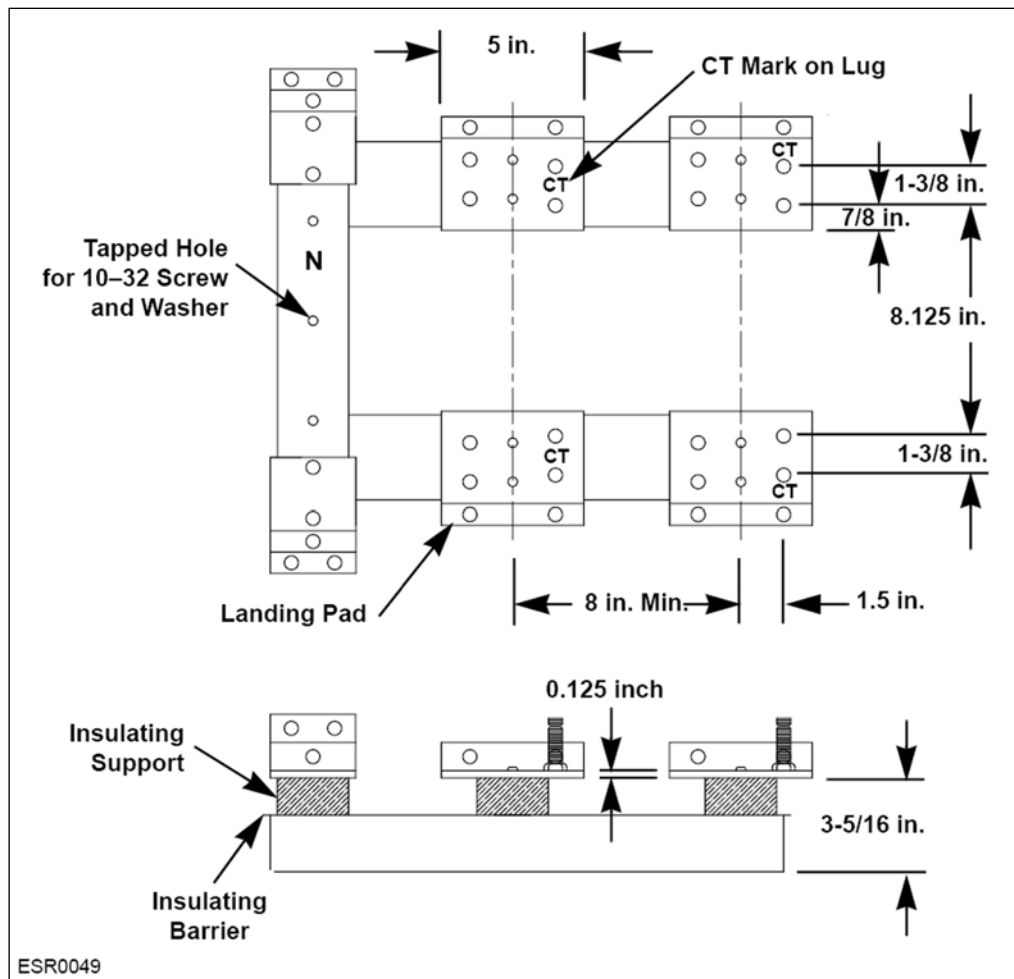
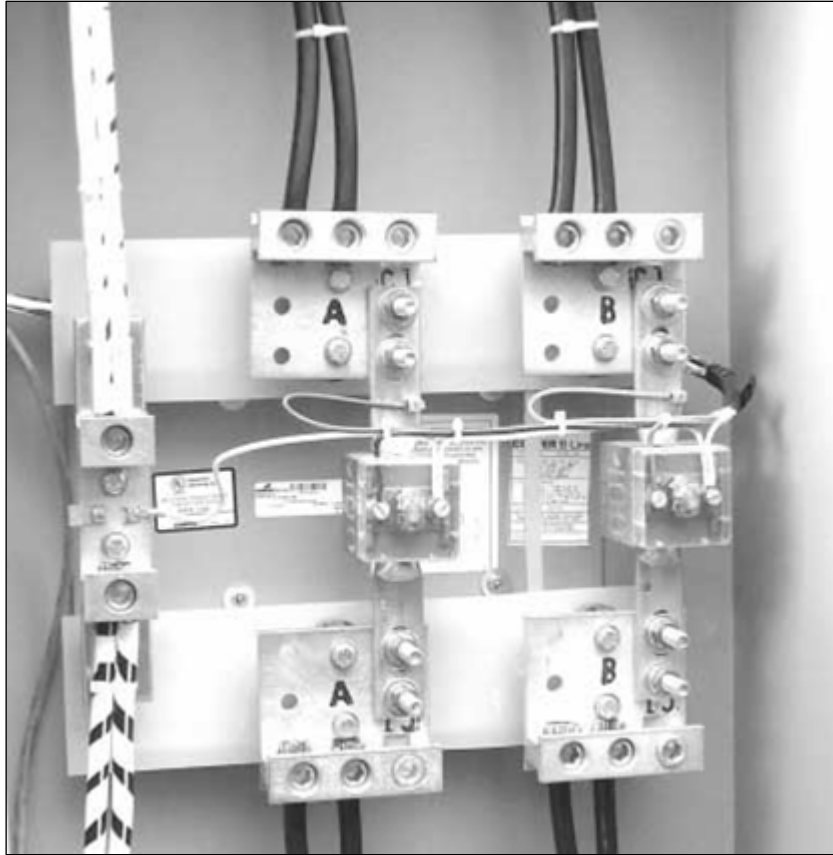

Figure 79: Transformer Mounting Base for Installation in a CT Cabinet, Single-Phase, 3-Wire, 800 A Maximum (EUSERC 328B)
Figure 80: Typical Single-Phase CT Installation
Figure 79 shows a transformer mounting base for installation in a current transformer (CT) cabinet, single-phase, 3-wire, 800 A maximum (EUSERC 328B). **Figure 80** shows a typical single-phase CT installation.